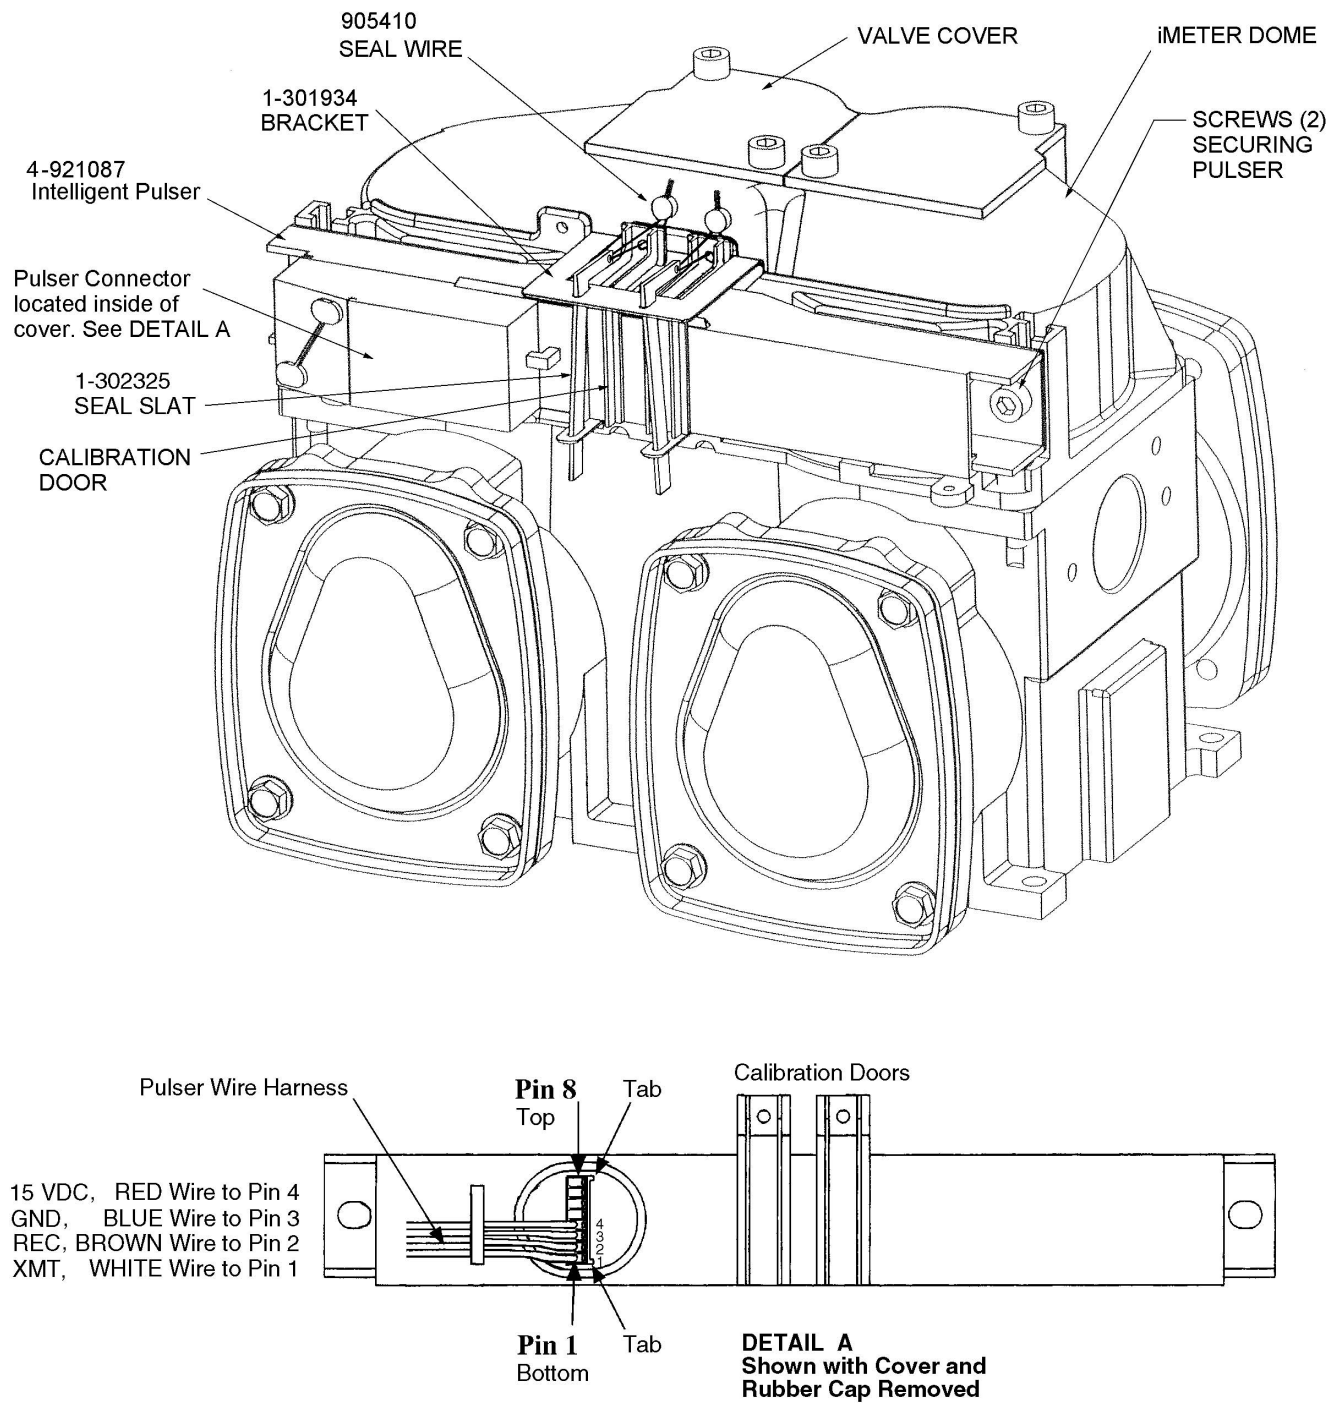

FIGURE 10-1 IMETER AND INTELLIGENT PULSER.
Refer to Figure 10-1 and replace pulser as follows:
6. Connect the pulser wire harness to the new pulser. Align carefully - misaligned connector pins at the pulser will prevent proper mode setting and calibration. Pin 1 on the connector inside the pulser is located at the bottom of the pulser as shown in Figure 10-1, Detail A.
8. Install the new pulser, along with new sealing bracket, and secure with the (2) screws removed above. Do not install new seal wires at this time.
For reference during this procedure, see Figures 10-1, 10-2 and previous figures in Section 5.